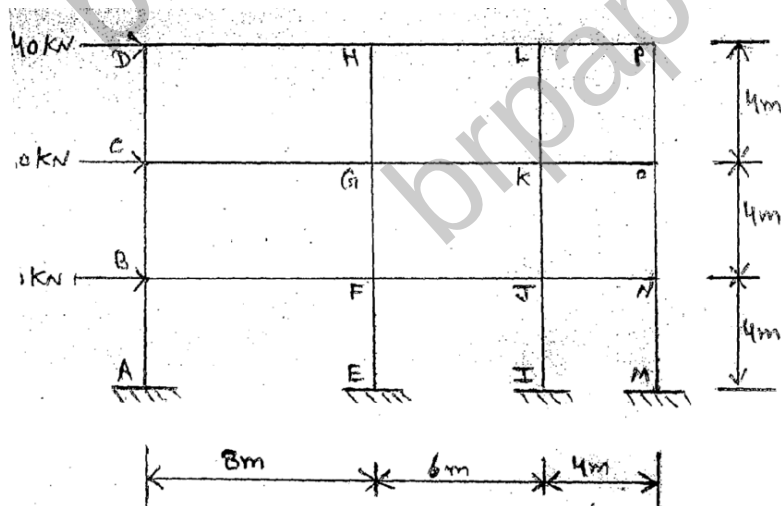

Fig.8
9. Analyse the frame shown in figure 8 by cantilever method. Area of each exterior column is one half of the area of the interior columns.